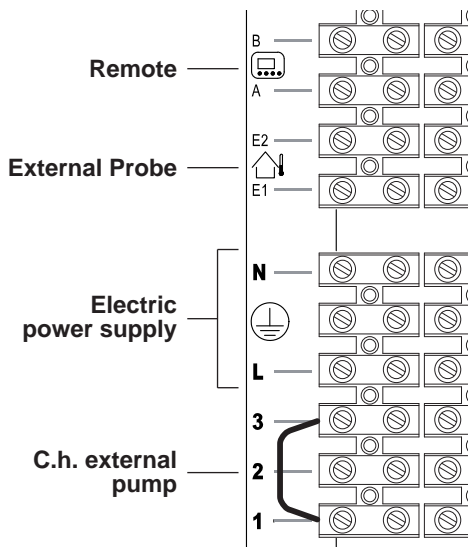

Fig. 6.26
Use the clamps indicated in Fig. 6.26 to connect the external probe.
Use the clamps indicated in Fig. 6.26 to connect the remote.
**Do not remove the electric jumper connected on the ambient thermostat terminal block between "1 and 3" Fig. 6.26.**